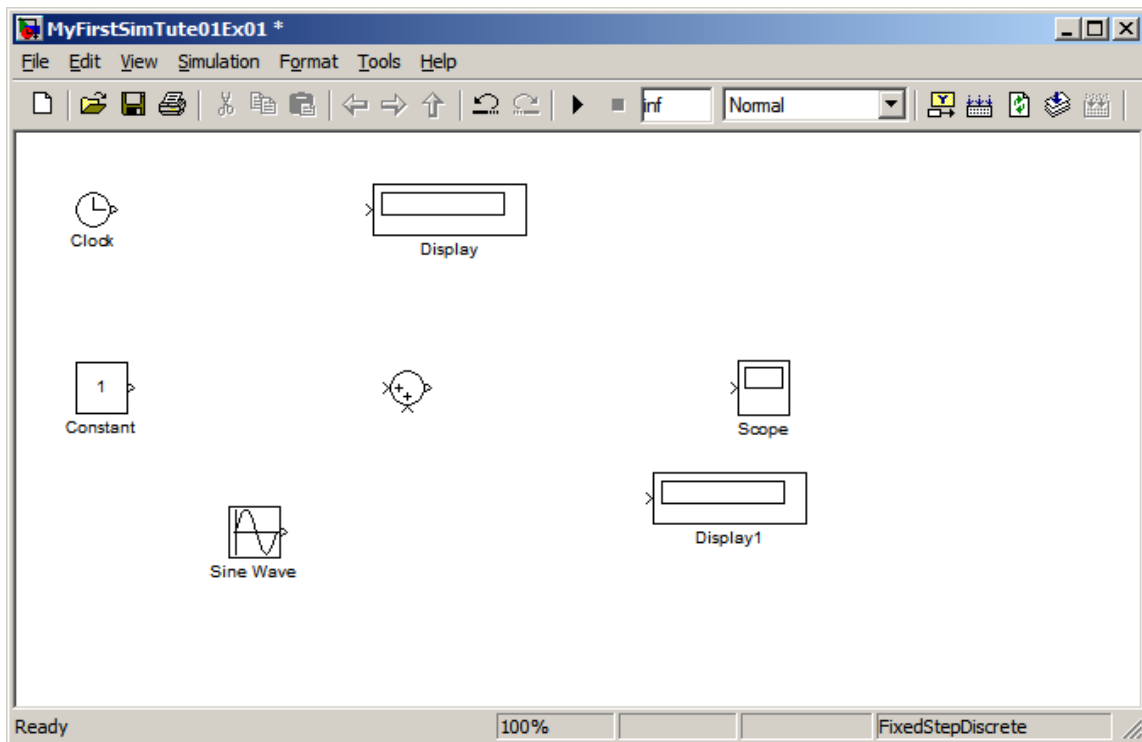

Figure 2 Start a simple Simulink model
- Select a Scope (Sinks). The Simulink model should look like the one in **Fig. 2**.